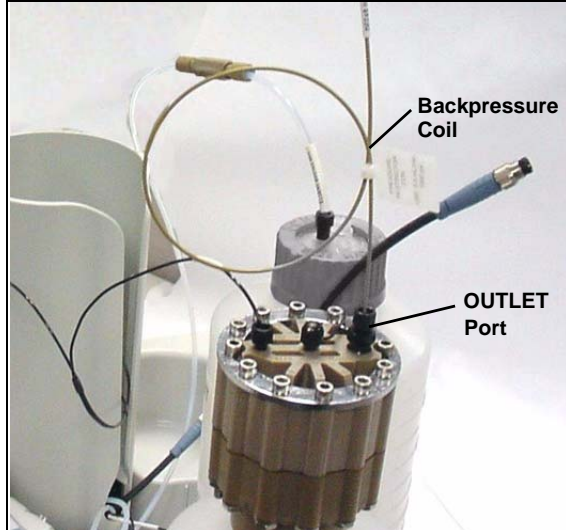

Figure 46. EGC Outlet Connection for Conditioning the EGC
7. Connect one end of this coil to the EGC **OUTLET** port (see Figure 46). Leave the other end of the coil unconnected.